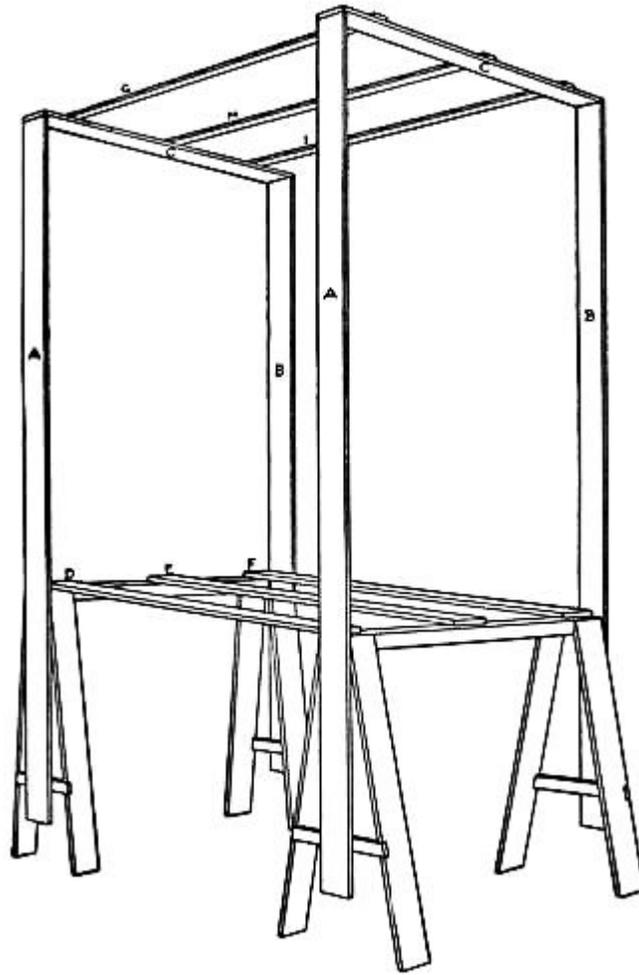

FIG. 317.—The Stage Framework.
On the opposite page is shown a miniature theatre completed, and in Fig. 317 will be seen the proper construction of
**The Stage Framework**, which is made of narrow boards and built upon two horses the width of the picture-frame. Make the horses as shown in Fig. 317, one two feet six inches high and the other two feet nine inches high, using two-by-fours for the tops and narrow boards for the legs and braces. After constructing the horses, cut four boards seven feet long and nail two to the ends of each (*A* and *B*, Fig. 317), after which cut two pieces to reach across the tops and nail them in place as shown at *C*. Then set the horses five feet apart, with the lower one in front, and screw three
**The Gridiron**, or supports from which the scenery drops are suspended, and should have a row of tacks driven into each edge, as shown in Fig. 317, upon which to hang the drops. By fastening the framework together with screws, it may be taken apart after a performance and packed away for another time.